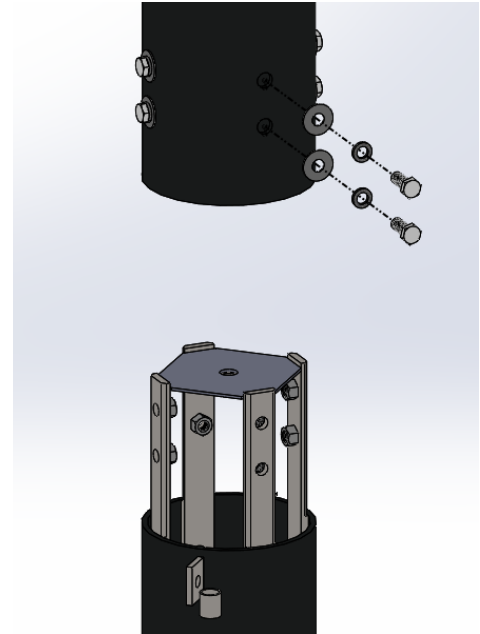

Figure 4
2. Install all (4) 1” bolts with Flat & Lock Washers, finger tight as pictured in Figure 4.